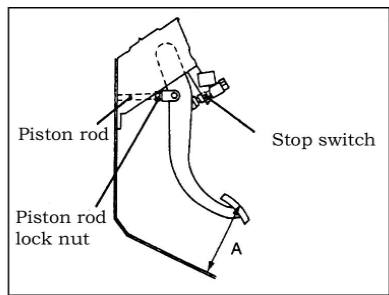

Fig. 16-1
(1) Brake pedal height inspection and adjustment
- ① Roll up carpet and other goods under brake pedal
- ② Measuring brake pedal height (see Fig. 16-1)。